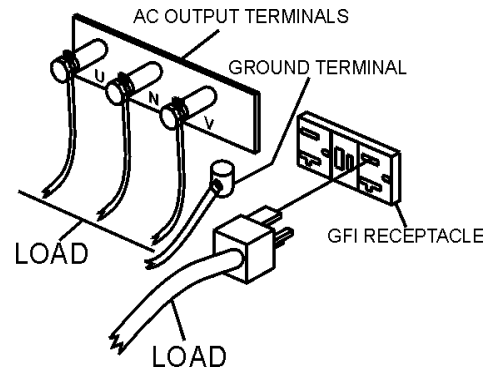

Figure 43. UNV Terminal Lugs (Load)
2. Once it is determined if commercial power is required, connect the load to the UNV terminals as shown in Figure 43. These terminals can be found on the output terminal panel, see page 33, Figure 14. To gain access to the output terminals lift the UNV cover. Make sure to tighten terminal nuts securely to prevent load wires from slipping out.